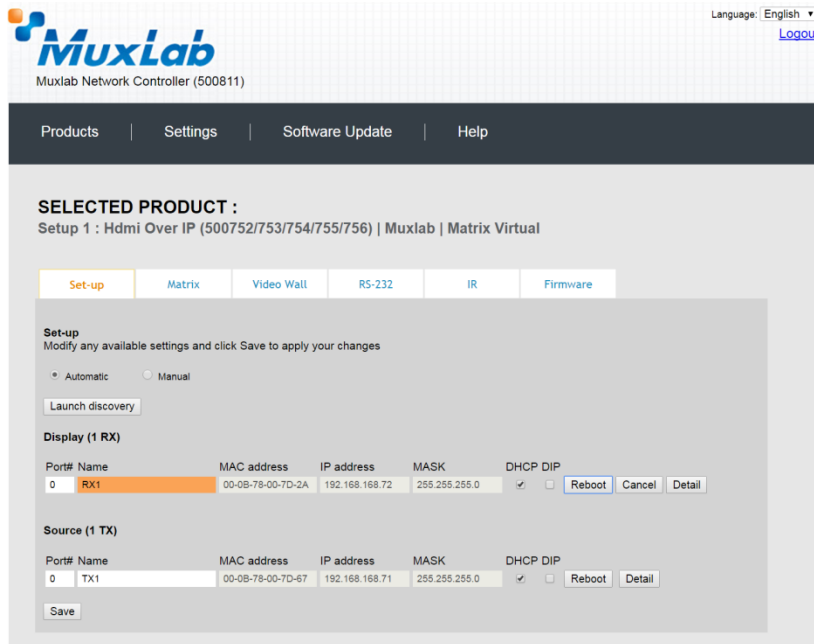

Figure 123: Name Editing
Each 500755 transmitter/receiver can be assigned an arbitrary descriptive name, normally reflecting the end device that it is terminated to. To change the name of any speaker/amplifier sink (RX) or audio source (TX) device, click the **Name** field to edit its contents. Several **Name** fields can be edited before saving changes, as shown in Figure 123 (orange highlighted fields).